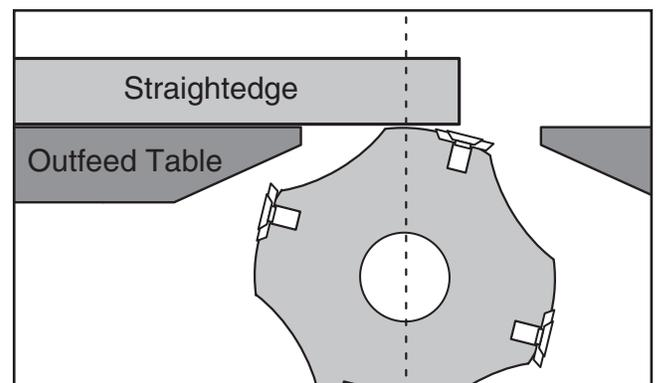

Figure 7. Checking cutterhead parallelism.
- Using straightedge and feeler gauge set, inspect cutterhead parallelism with outfeed table, as shown in **Figure 7**. With straightedge in position, raise or lower outfeed table until cutterhead body (not the carbide insert) just touches straightedge.